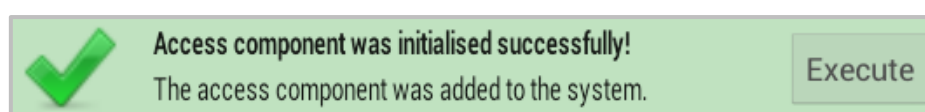

Figure 148: Xesar tablet — successful initialisation
- The system confirms having successfully completed the task (Figure 148: Xesar tablet — successful initialisation).